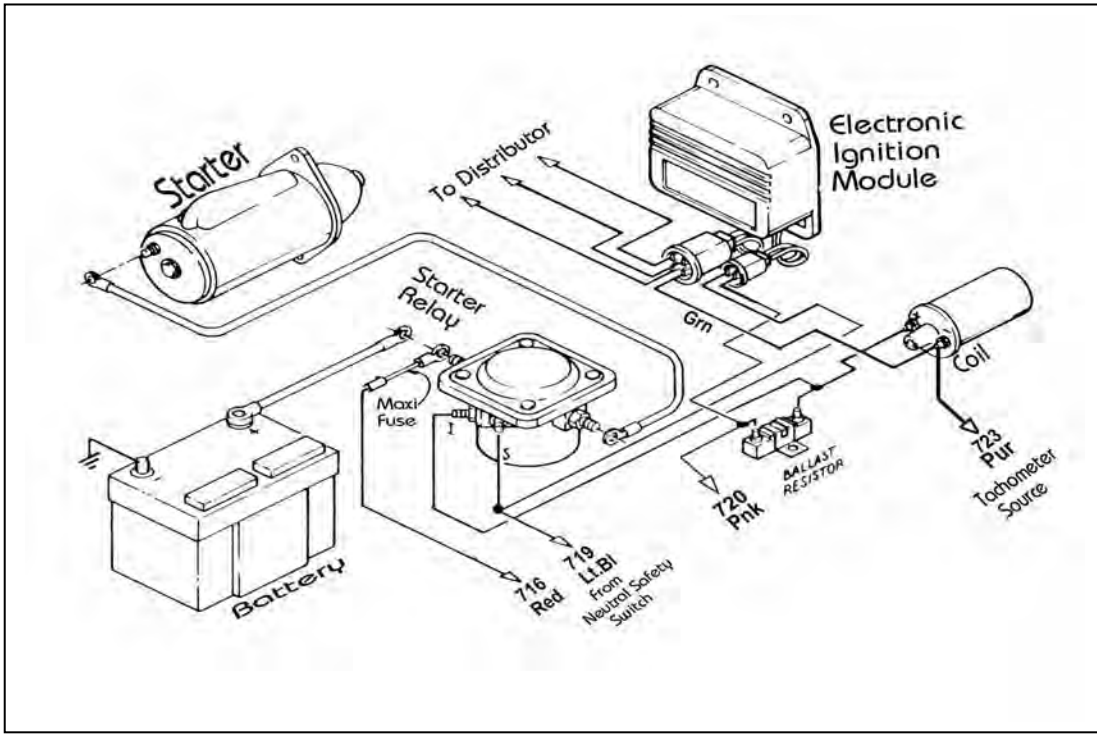

Figure 8.8 Motorcraft Electronic Ignition System
8.3.2 Motorcraft Electronic Ignition System. See Figure 8.8.